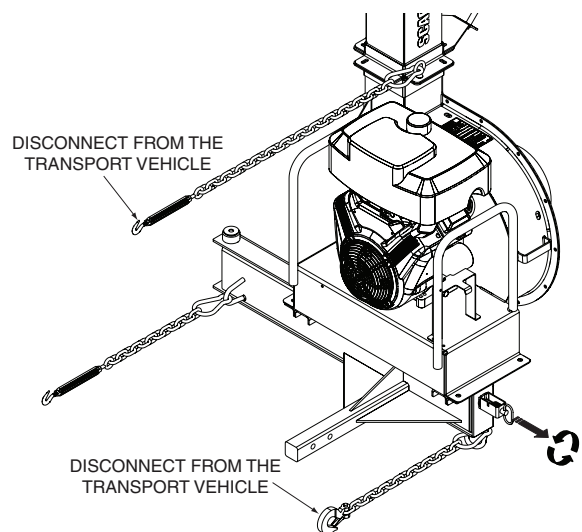

Figure 4-3. TLH "Swing-Away" Hitch Mount Lock
1. Disconnect the two safety chains from the transport vehicle. See Figure 4-3.
2. Pull and rotate the lock pin to lock in the open position. See Figure 4-3.